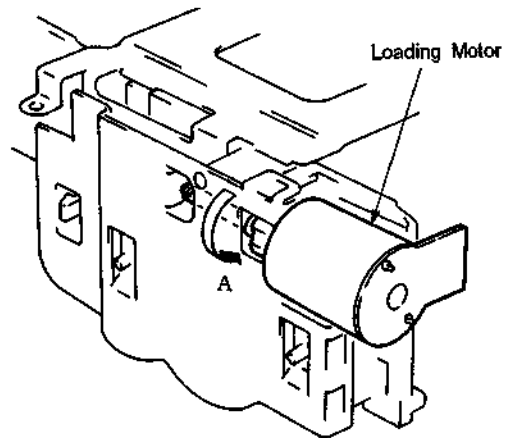

Fig.2.
5. Rotate the loading motor of the cassette compartment ass'y manually in the direction of arrow, and eject the cassette. (Fig.2.)
3. Push down the CASSETTE DOWN switch with tape and etc. (Fig.2.)